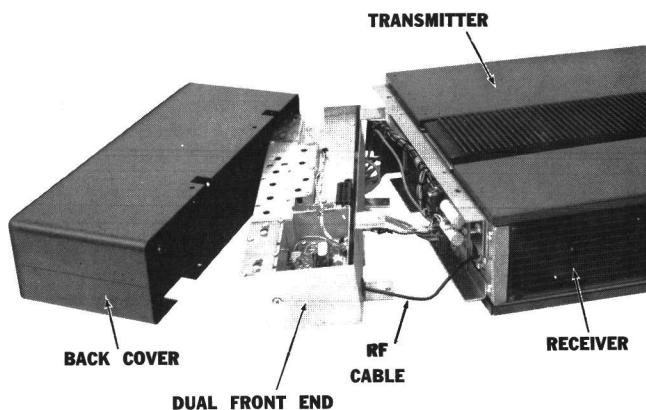

Figure 4 - Dual Front End Assembly
2. Remove the four screws holding back cover to system frame. Slide cover back and lift off (see Figure 4).